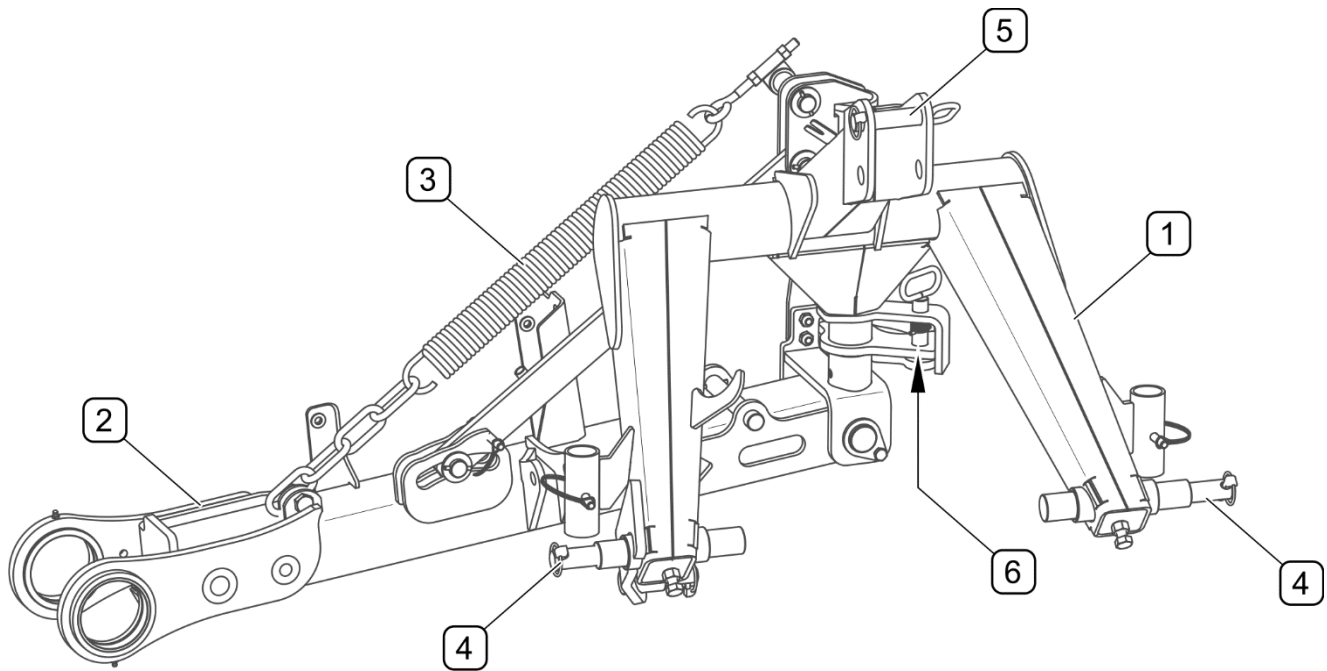

FIGURE 3.2 Linkage
(1) - three-point linkage frame; (2) - load-bearing beam; (3) - tensioning spring; (4) - three-point linkage lower links pin; (5) - central connection pin; (6) - beam rotation lock pin;
The main component of the linkage (FIGURE 3.2) of mower PDK220 is the three-point linkage frame (1), fitted with two adjustable pins of lower links (4) and a central connection pin (5) used for attachment to the tractor three-point linkage. Load-bearing beam (2) lifts and lowers the cutting unit. An adjustable-tension spring (3) is used to relieve load of the cutting unit. A pin (6) is used to lock the load-bearing arm turned to the transport position.